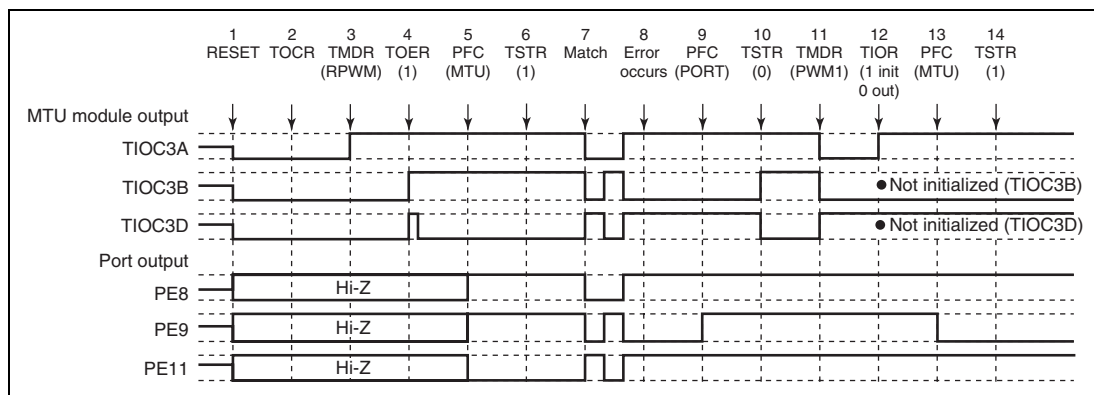

**Figure 11.111 Error Occurrence in Reset-Synchronous PWM Mode, Recovery in PWM Mode 1**
**Operation when Error Occurs during Reset-Synchronous PWM Mode Operation, and Operation is Restarted in PWM Mode 1:** Figure 11.111 shows an explanatory diagram of the case where an error occurs in reset-synchronous PWM mode and operation is restarted in PWM mode 1 after re-setting.